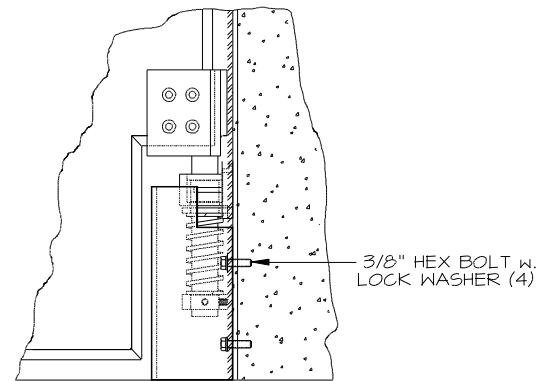

FIG. 6
- a. **Floor mounted jamb guard** (Figure 6)